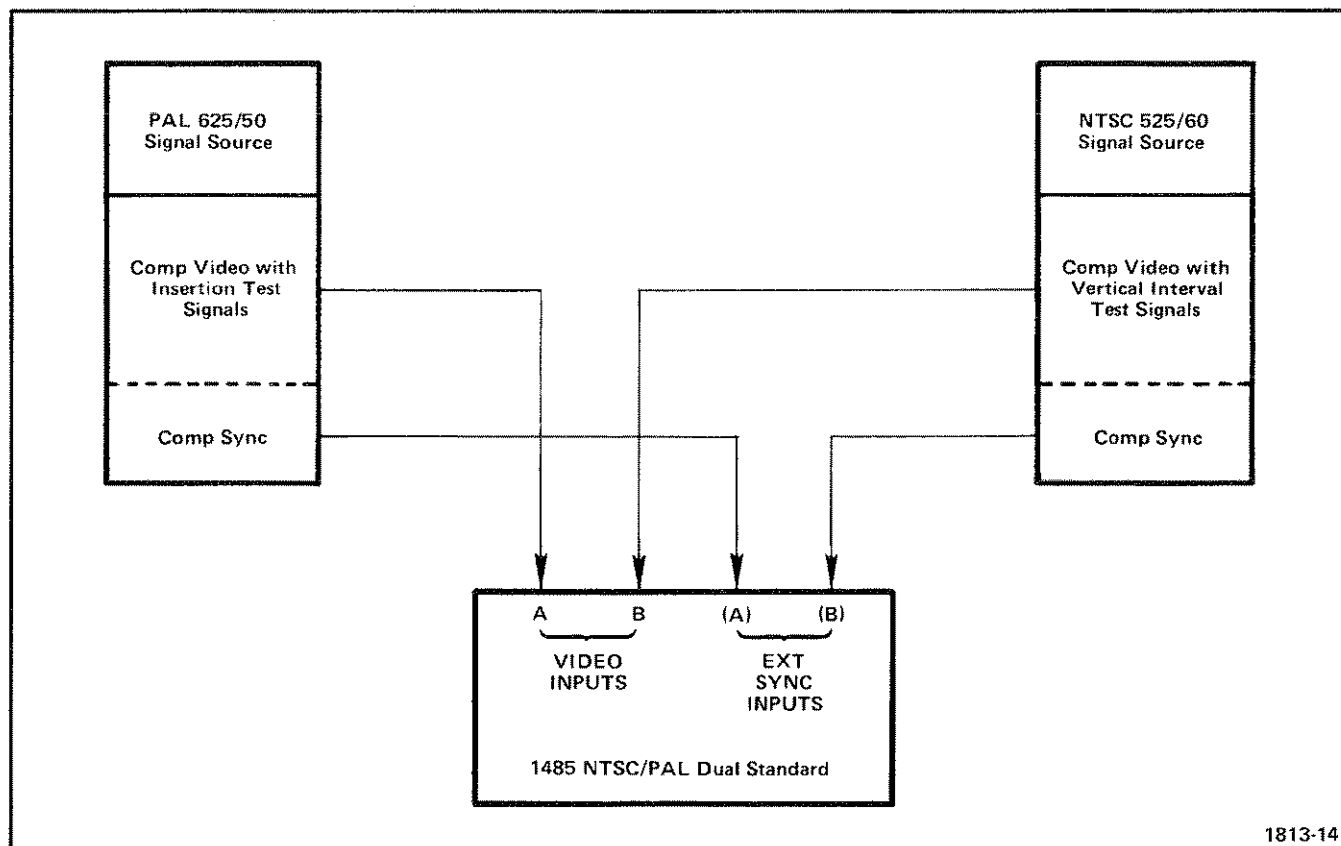

Fig. 2-8. Convenient signal hookup for demonstrating dual standard operation.
RESPONSE Displays. For operator convenience in checking out the 1485's dual-standard modes, interconnect the Waveform Monitor and the two composite video signal sources as shown in Fig. 2-8. Set the rear panel external sync source slide switch to EXT SYNC SWITCHED WITH INPUT SWITCH (A) OR (B). Set both signal sources for the normal, full-field color bar test signal for each line-standard system.
Connect signal sources as in Fig. 2-8. Set the rear-panel sync input selector to EXTERNAL SYNC ALWAYS (A). Press the EXT SYNC button and set the INPUT switch to A. Note the stable display. Set the INPUT switch to B and note the unlocked display. Press the INT SYNC button and note the stable display. Set the rear-panel sync input selector to EXTERNAL SYNC SWITCHED WITH INPUT SWITCH (A) OR (B). Check for stable displays in A or B INPUT positions and INT or EXT SYNC.